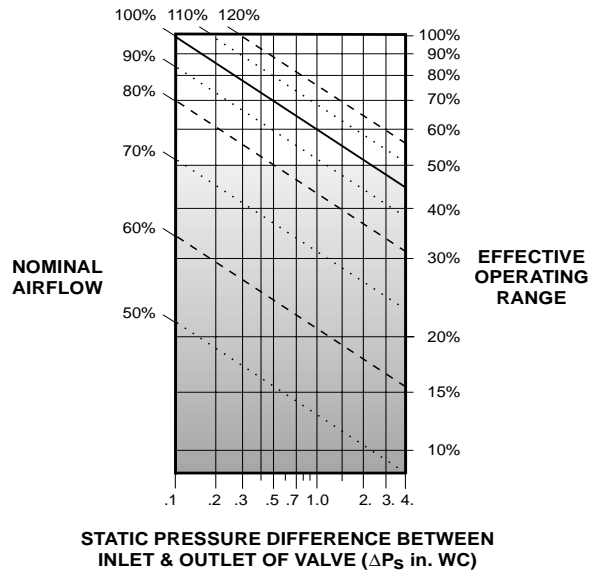

Figure 2. Controllability Graph
Figure 2 shows the effect of airflow rate and  $\Delta P_s$  on controllability for VAV valves. The maximum operating range of a VAV valve is the physical distance (linear or rotational) in which it modulates. The Effective Operating Range is equal to the maximum operating range minus the amount the valve must close to compensate for the system static pressure at the design airflow rate. Optimum controllability is attained by selecting the smallest sized unit which meets the design airflow and sound requirements.
G. The effective operating range of the unit at the design conditions should be checked using Figure 2 (page 2). Calculate the percentage of nominal airflow using the following formula:
G. The % of Nominal Airflow =  $1700 \div 1700 = 100\%$ . Checking the effective operating range at 100% for 1.0"  $\Delta P_s$  from Figure 2 (page 2), it is determined that the effective operating range of the unit is 60% (effective operating ranges below 50% are not recommended).